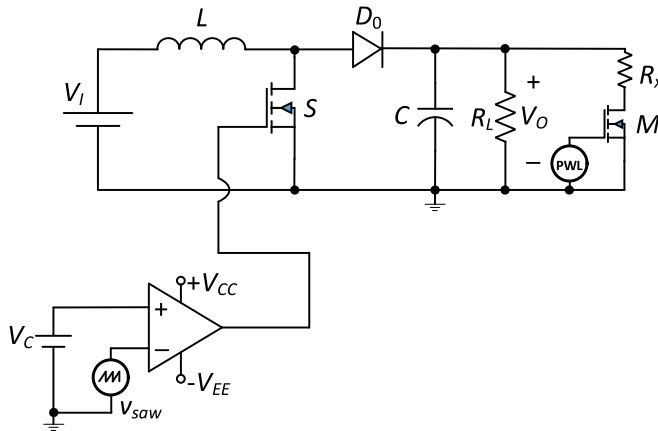

Figure 30.1 Circuit of the PWM boost dc–dc converter used to simulate step change in load resistance.
1. Construct the circuit shown in Figure 30.1 on the circuit simulator. The circuit consists of a series connection of a resistor R_x and an ideal MOSFET M and is placed in parallel with the load resistor R_L . Let $R_x = 40 \Omega$. This is needed in order to simulate the step change in the load resistance with respect to time.